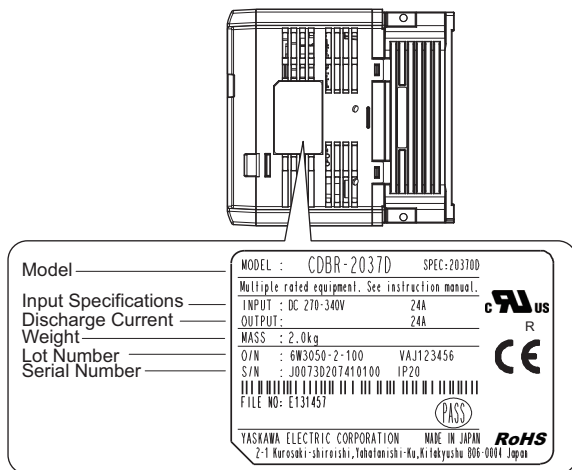

Figure 3 Nameplate Example (CDBR Braking Unit)
2. Confirm that the model number on the option nameplate and the model listed in the purchase order are the same. Refer to Figure 3 on page 12 for details. Contact the distributor where the option was purchased or the Yaskawa sales office immediately about any problems with the option.